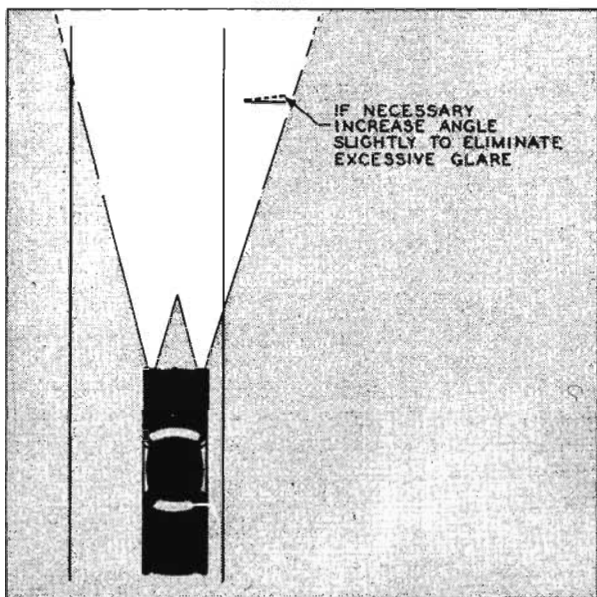

Fig. 4 — Locating Sign to Reduce Glare
2.04 When excessive glare from the face of the sign affects its legibility, turn sign slightly away from road as shown in Fig. 4.